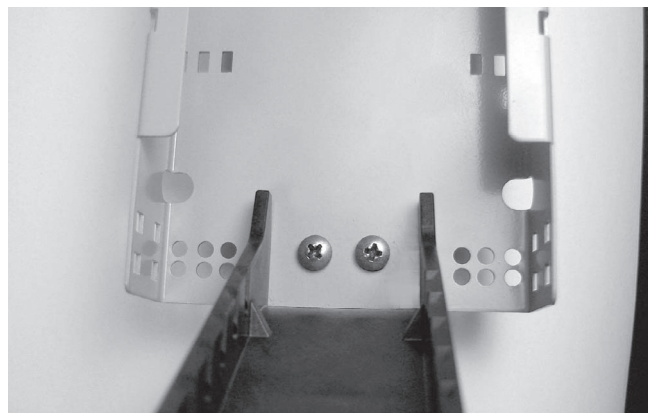

Figure 8a
2. Align the two holes in the basket with the holes in the tray bracket. Insert the two supplied screws and tighten. (Figure 8a)